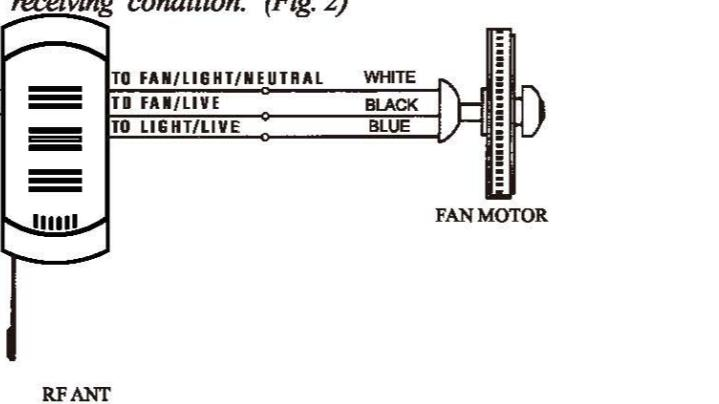

Fig. 1.1
3. Make the wiring connection as shown in Fig. 1.1 and 1.2. RF. sensor must be stuck outside canopy. Its position depends on RF. receiving condition. (Fig. 2)